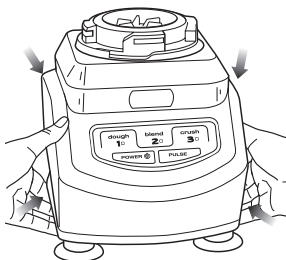

Fig. 13
- 3 To release the motor base from the counter or table top, place your hands underneath both sides of the motor base and gently pull the unit up and towards you. (Fig. 13)